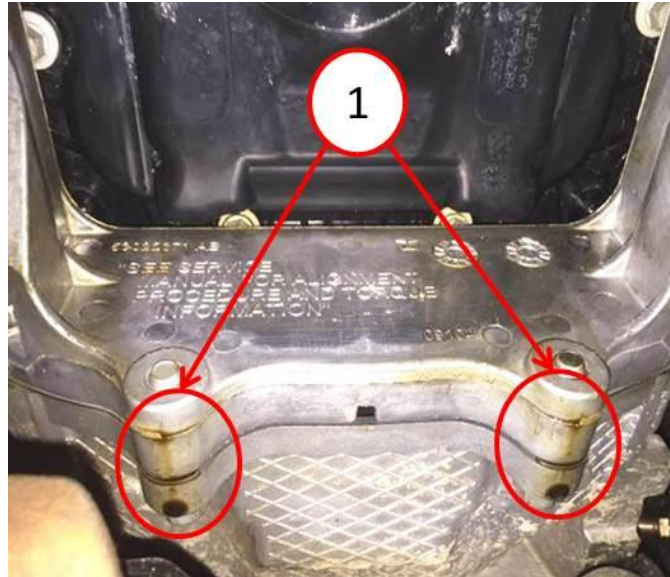

Fig. 1 Oil Pan Weepage
1. Visually inspect for oil weepage. Is weepage noticed (Fig. 1)?
3. Check for oil weepage from oil pan with dye using black light. Was oil detected (Fig. 1)?